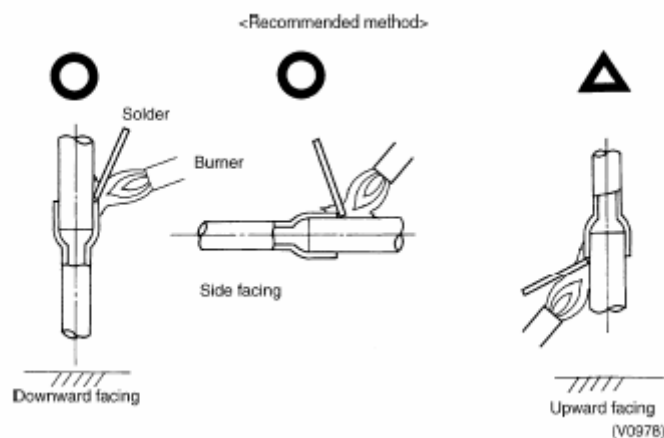

Figure 3-1-3
- ◆ Generally, the pipe shall be welded with the weld junction upward or horizontal. Avoid welding with the pipe opening downward. (Downward welding is easy to cause defects, which may affect the weld quality or even cause leakage, as show in Fig. 3-1-3).